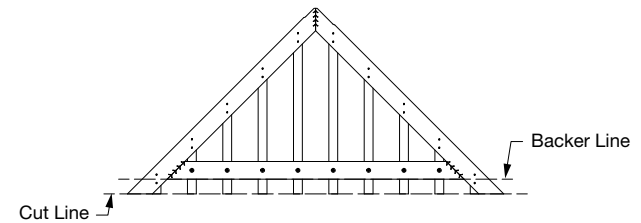

Fig 65
3. Cut along the **CUT LINE** (*Fig 65*).